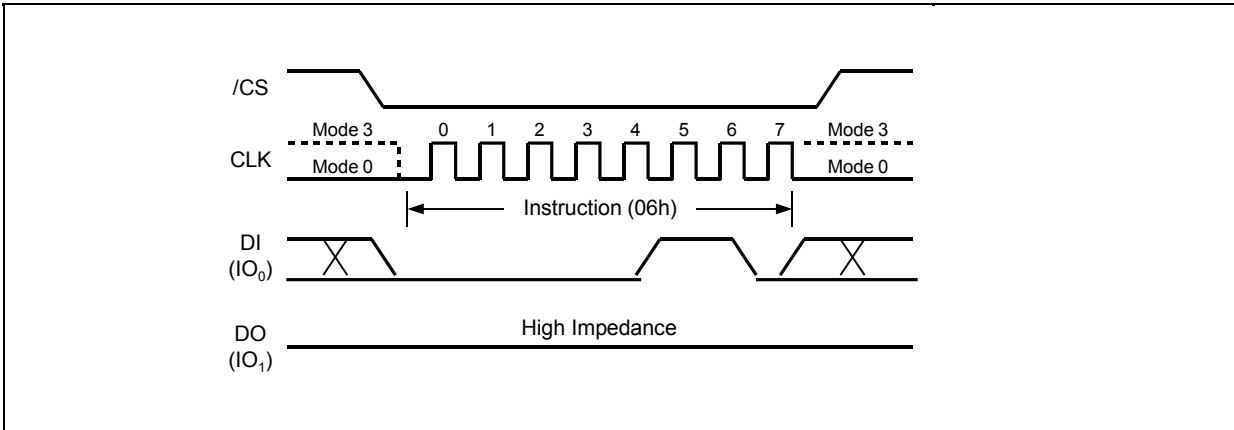

Figure 5. Write Enable Instruction
The Write Enable instruction (Figure 5) sets the Write Enable Latch (WEL) bit in the Status Register to a 1. The WEL bit must be set prior to every Page Program, Quad Page Program, Sector Erase, Block Erase, Chip Erase, Write Status Register and Erase/Program Registers instruction. The Write Enable instruction is entered by driving /CS low, shifting the instruction code “06h” into the Data Input (DI) pin on the rising edge of CLK, and then driving /CS high.